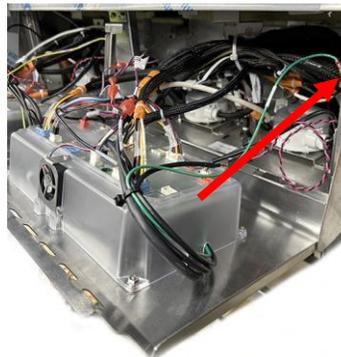

Figure 17
22. It is critical to ensure that the HCB harness and controller harness are attached together to the butterfly and attached to a ground lug on the side of the fryer (see Figure 17).